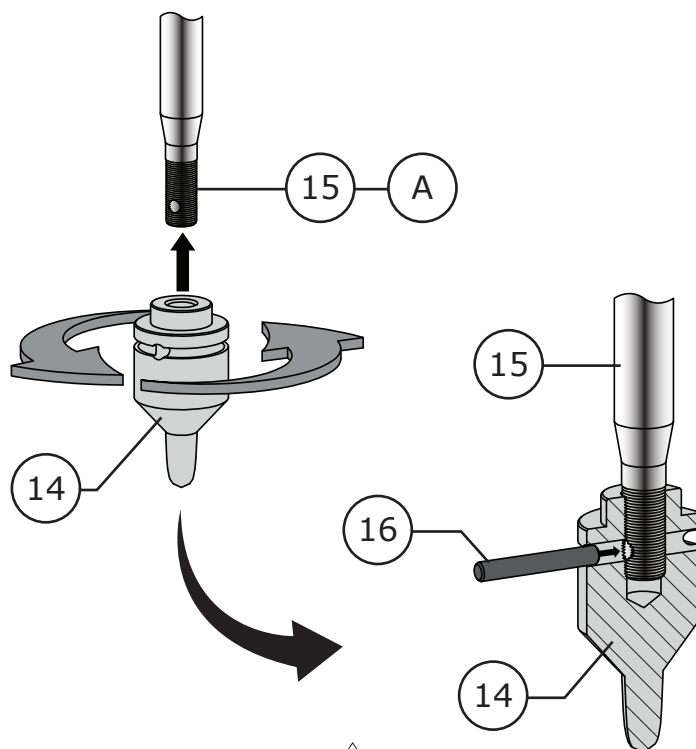

Figure 32 Plug/Stem Assembly Part 1
- 4 If the plug (Key 14) and valve stem (Key 15) are not yet assembled, apply Permatex® Nickel Anti-Seize (Key A) to the threads of the valve stem as shown in Figure 32.
- 5 Thread the plug (Key 14) on to the stem (Key 15) as shown in Figure 32 until the groove pin hole in the plug aligns with the hole in the stem.